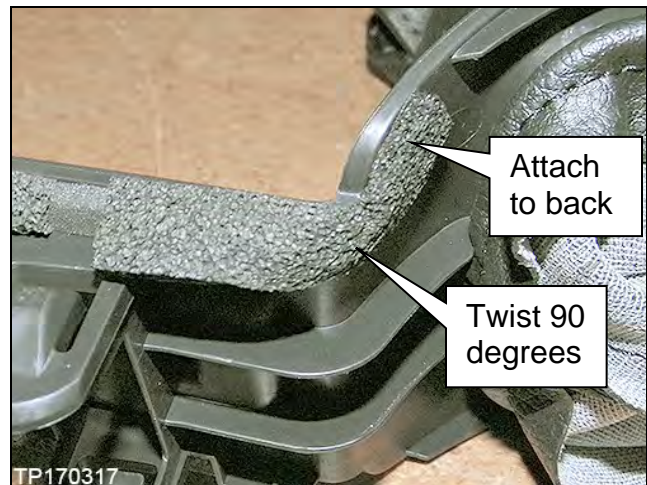

Figure 13A
- c. Twist foam piece 90 degrees and attach to the back of the parking brake finisher (Figure 13A).